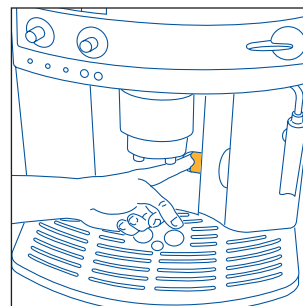
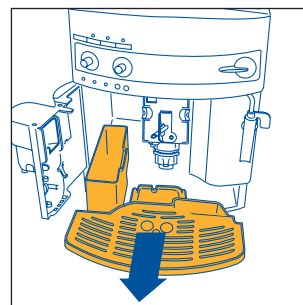

Fig.15
Fig.16
NOTE 7: the machine counts the number of cups of coffee made. Each 14 single cups (or 7 double cups), the  light switches on steady (chap. 12 point 3), warning the user that the grounds container is full and must be emptied and cleaned. Until the grounds container has been cleaned, the light will remain on and the machine cannot deliver coffee. To clean the container, open the service door on the front (pulling the handle, Fig. 15), the  light flashes (see para 12 point 9); remove the drip tray (Fig. 16), empty and clean. Empty and carefully clean the grounds container, making sure to remove all the residues that may be deposited on the bottom. Also dry the any drops of condensate that may have formed inside the machine under the drip tray. **IMPORTANT: when removing the drip tray, the grounds container MUST be emptied, even if it is not completely full. If this is not done, when next making coffee the grounds container may fill over the maximum level and block the machine with lumps of coffee grounds.**
- open the service door (Fig. 15);
- remove the drip tray and the grounds container (Fig. 16) and clean them;